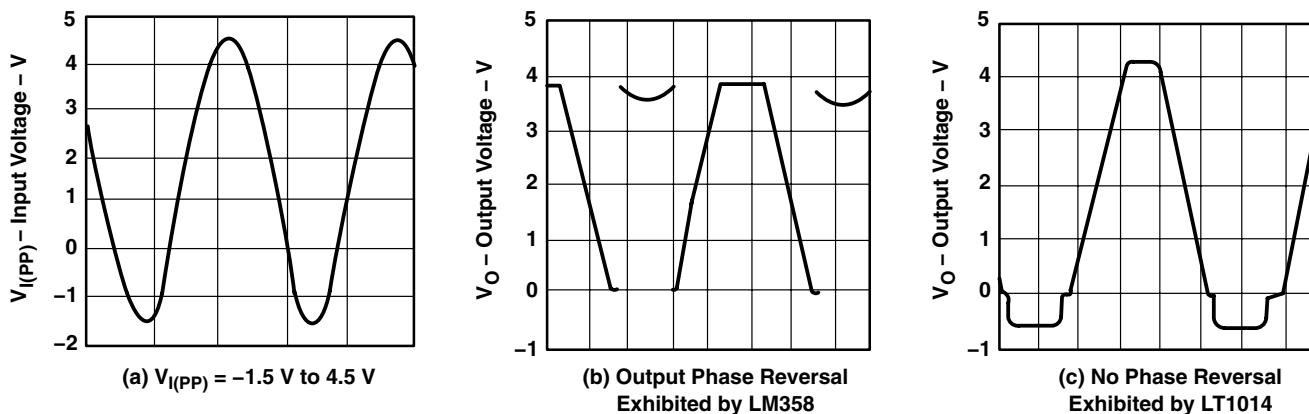

Figure 24. Voltage-Follower Response
2. When the input is more than 400 mV below ground (at $T_A = 25^\circ\text{C}$), the input stage of similar type operational amplifiers saturates, and phase reversal occurs at the output. This can cause lockup in servo systems. Because of unique phase-reversal protection circuitry (Q21, Q22, Q27, and Q28), the LT1014 outputs do not reverse, even when the inputs are at -1.5 V (see Figure 24).